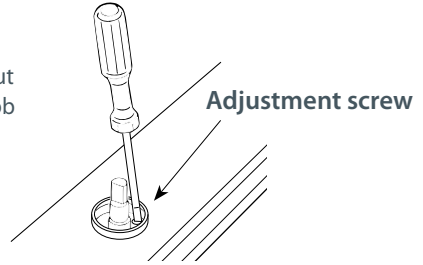

Fig. 17 Adjusting the minimum burner setting
- Turn the adjustment screw to the correct setting with a screwdriver (Fig.17).